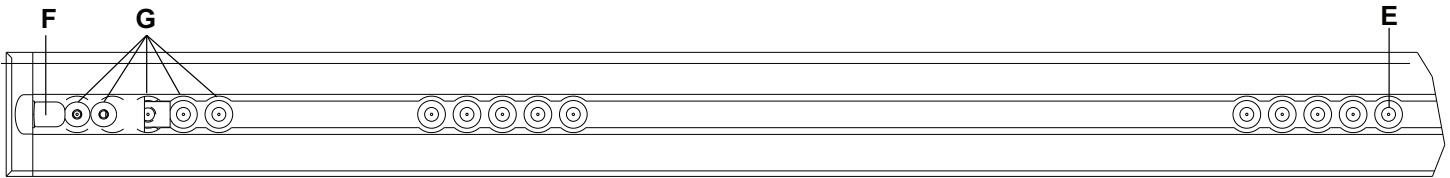

Figure 10 – Floor plate locator position - foot end
Note - If you have a previously installed floor plate without the anchor-to-vehicle cable, measure either 3 in. or 7 in. toward the head end from the locator position E (Figure 10). Mark the location in the middle of the channel. This will be your electrical inlet location. See Installing the floor plate (6390-109-020) for instructions about how to connect the electrical.
Note - The safety hook (F) and extra mounting hole locations (G) are shown for reference only (Figure 10). They are not used for **Performance-LOAD** installation.